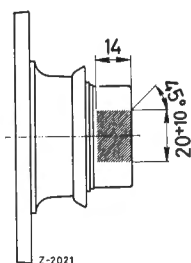

Fig. 35-8/3
8. Press the seal (5) out of the cover (7) of the rear axle housing (Fig. 35-8/1).